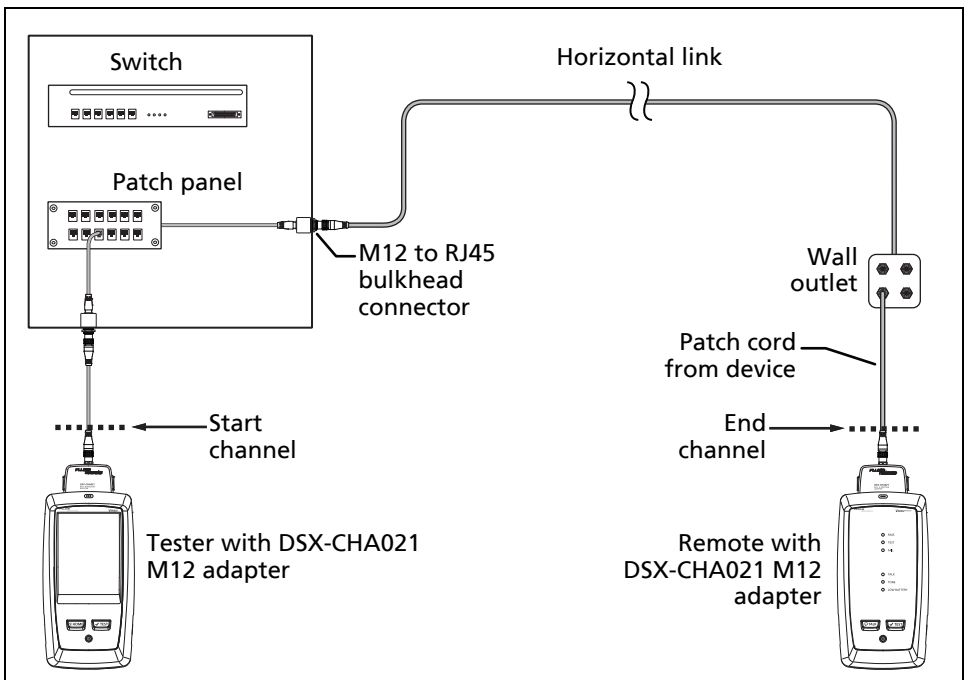

Figure 2. Typical Connections for Tests on an M12 Link
- 5 Connect the testers to the link (Figure 2).
- 5 Connect the testers to the patch cord (Figure 2), then tap **TEST** on the main tester or press  on the main or remote tester.